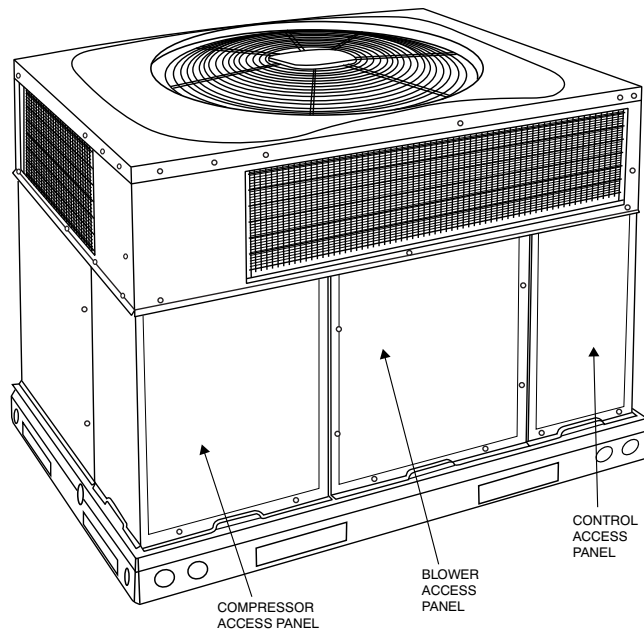
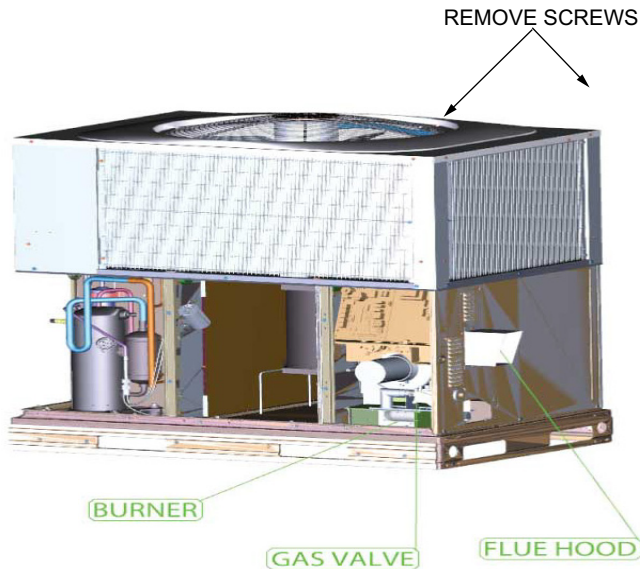
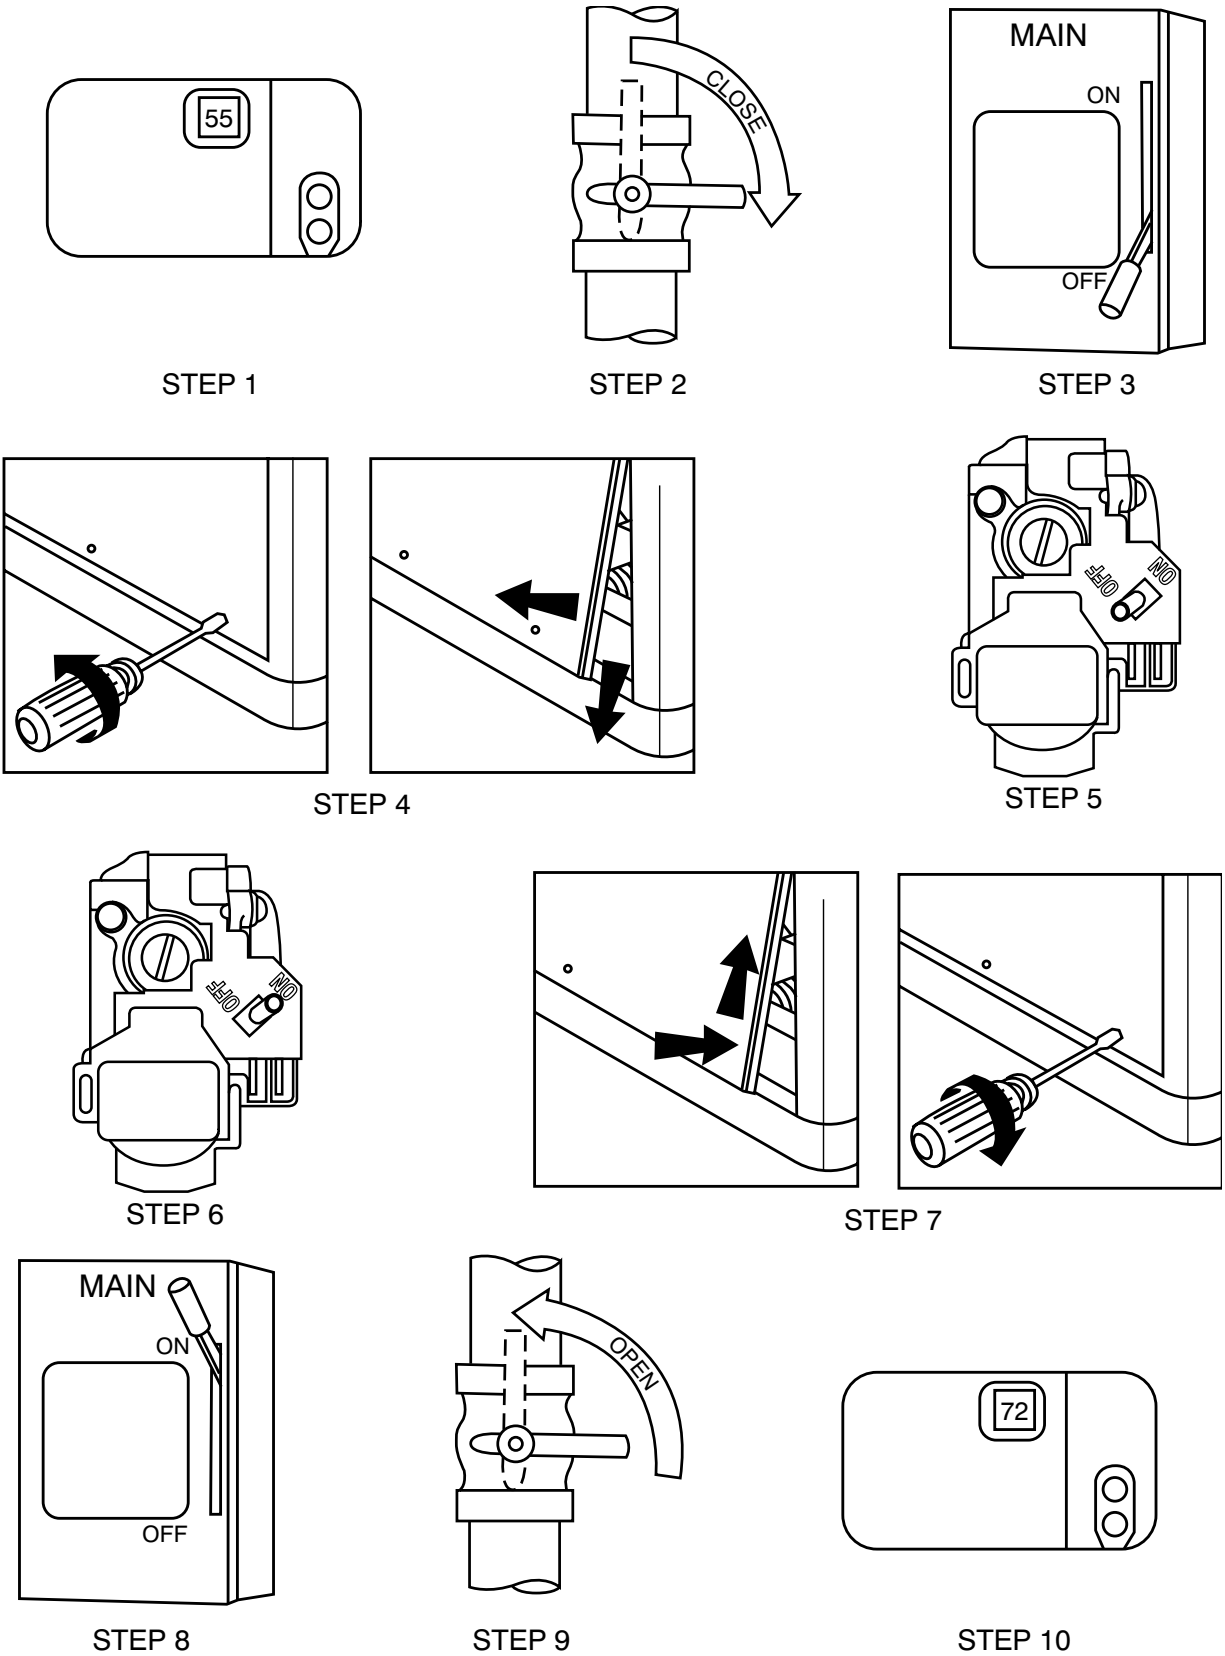

Fig. 2 – Unit Access Panel
Fig. 3 – Gas Heating/Electric Cooling Unit with Access Panel Removed A200279
Fig. 4 – To Start Unit Gas Heat
Refer to Fig. 2 for location of unit front access panel. Refer to Fig. 3 for location of gas valve. Refer to Fig. 4 while proceeding with the following steps.
4. Remove the control access panel with a 5/16-in. nut driver. (See Fig. 2.)
4. Remove the control access panel. (See Fig. 2.)
To replace or inspect filters in accessory filter rack (See Fig. 2):